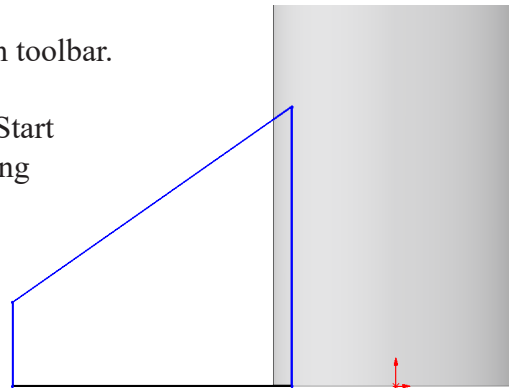

Fig. 19
Step 4. Click **Line**  (L) on the Sketch toolbar.
Step 5. Sketch **4 chained lines**, **Fig. 19**. Start sketch with vertical line down along left edge of tube to coincident with bottom edge, horizontal line across to left. Continue vertical line up and angled line back to top endpoint.